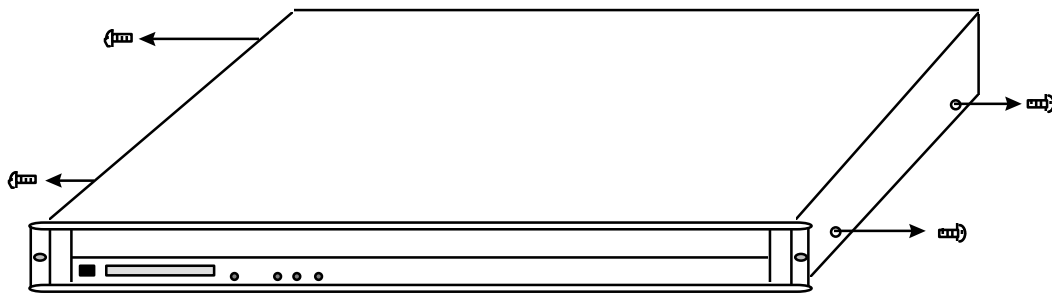

Figure 36 - Removing the Screws Securing the Cover
4. Remove the four screws that secure the cover on the MAXserver, using a Phillips-head screwdriver (see Figure 36). Put the screws in a safe place. Then, lift and remove the cover.
3. Pull the SIMM toward you, then up. (Basically, you reverse the steps shown in Figure 36.)